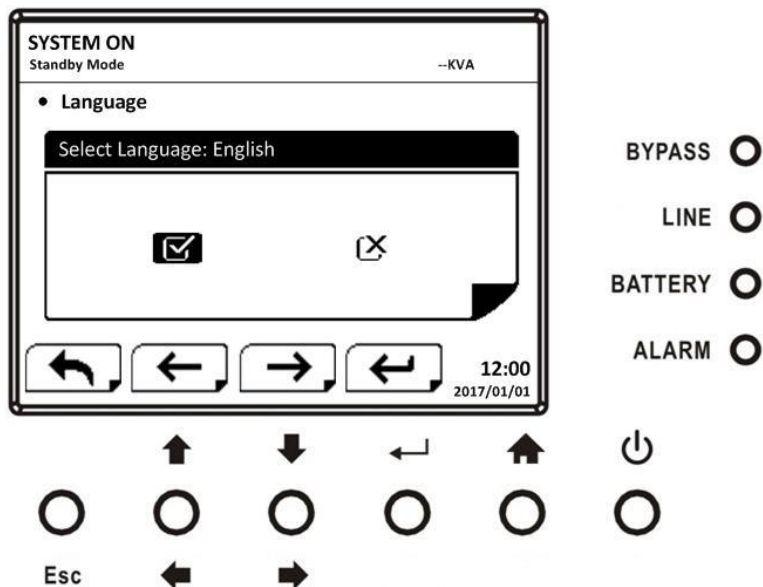

Figure 4-17 SETUP Confirmation screen
Use “←” or “→” buttons to choose the setting options for setting requirement, then press “↵” button. The confirmation screen will pop up. Use “←” or “→” button to choose “V” (YES) or “X” (NO). Choose “V” and press “↵” button to confirm setting or choose “X” to cancel the setting, as shown in Figure 4-17.